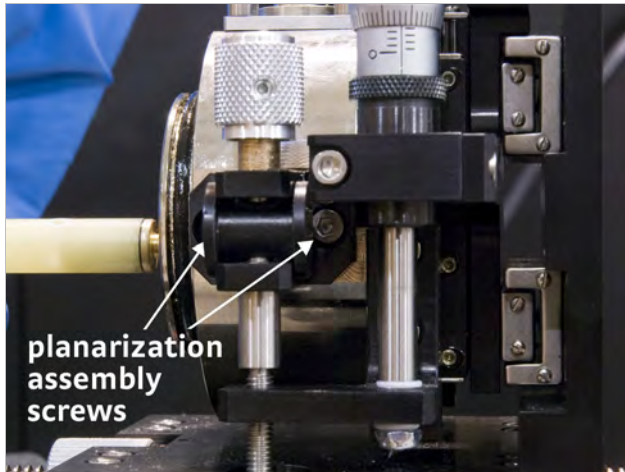

FIGURE 5-9 *Left: Loosen the two screws holding the planarization assembly to the probe arm base; Right: Pull out the threaded dowels*
4. If you have a planarization assembly attached to the probe arm, loosen the two M3 screws that hold the planarization assembly to the arm base. You may need to turn the z-axis micrometer to access the screw that is behind the micrometer (FIGURE 5-9). The planarization assembly will remain attached to the stage.
5. The probe arm base is loosely secured to the z-axis stage with two stainless steel threaded dowels. Unscrew the threaded dowels, and then pull both dowels out (FIGURE 5-9).
Access to the threaded dowels may be to the side of the z-axis stage as shown in FIGURE 5-9 or to the top of the z-axis stage.